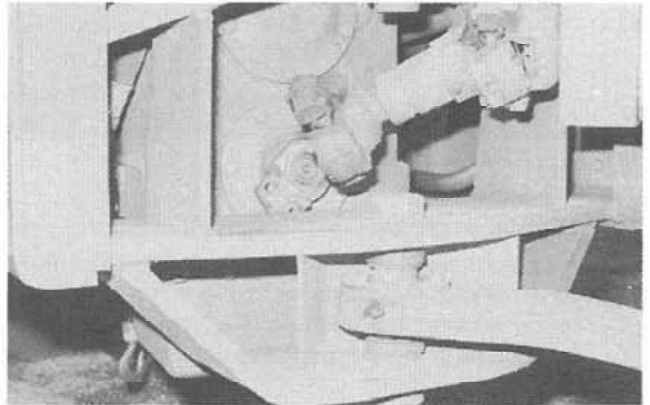

Figure 9:
11. Disconnect the lower intermediate driveline from the rear transfer case output yoke (Fig. 9).